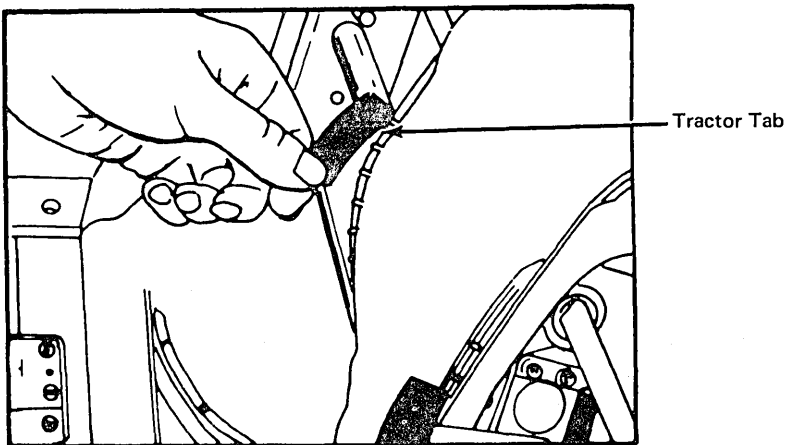

Figure 22. Positioning a Tractor
2. Position the left-hand tractor immediately to the left of the first print hammer. The tractor slides freely when you lift the tractor tab (Figure 22).